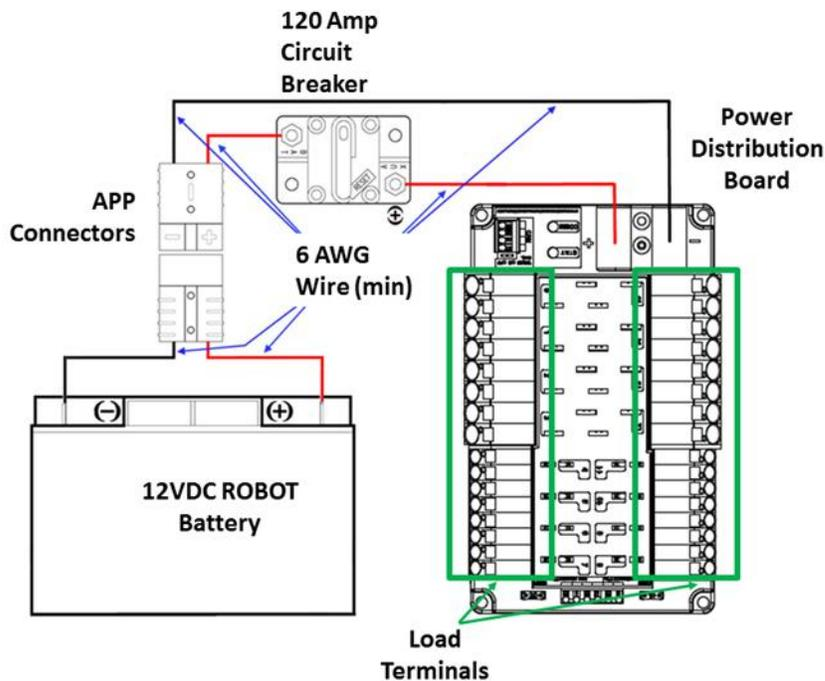

Figure 10-9 Electrical connection diagram
- R47.** The one (1) ROBOT battery, a single pair of Anderson Power Products (or APP) 2-pole SB type connectors, the one (1) main 120-amp (120A) surface mount circuit breaker (Cooper Bussman P/N: CB185-120, CB185F-120, CB285-120), and the one (1) CTR Electronics Power Distribution Panel (PDP, P/N: am-2856, 217-4244, 14-806880) shall be connected with 6 AWG (7 SWG or 16 mm²) copper wire or larger, with no additional devices or modifications, as shown in Figure 10-9.
- R48.** All circuits, with the exceptions of those listed in R53 and R55, must connect to, and have power sourced solely by, a single protected 12VDC WAGO connector pair (i.e. the Load Terminals, as shown in Figure 10-9) of the one (1) CTR Electronics Power Distribution Panel, not the M6 cap screws.